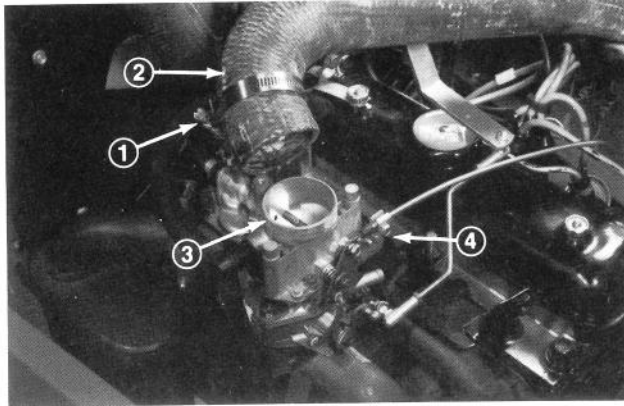

Figure 38
2. Clean dirt from around top of carburetor, loosen hose clamp and remove air cleaner hose from carburetor (Fig. 38).
3. If choke plate is not fully closed, loosen clamp screw (Fig. 38), hold choke plate closed and tighten the clamp screw.